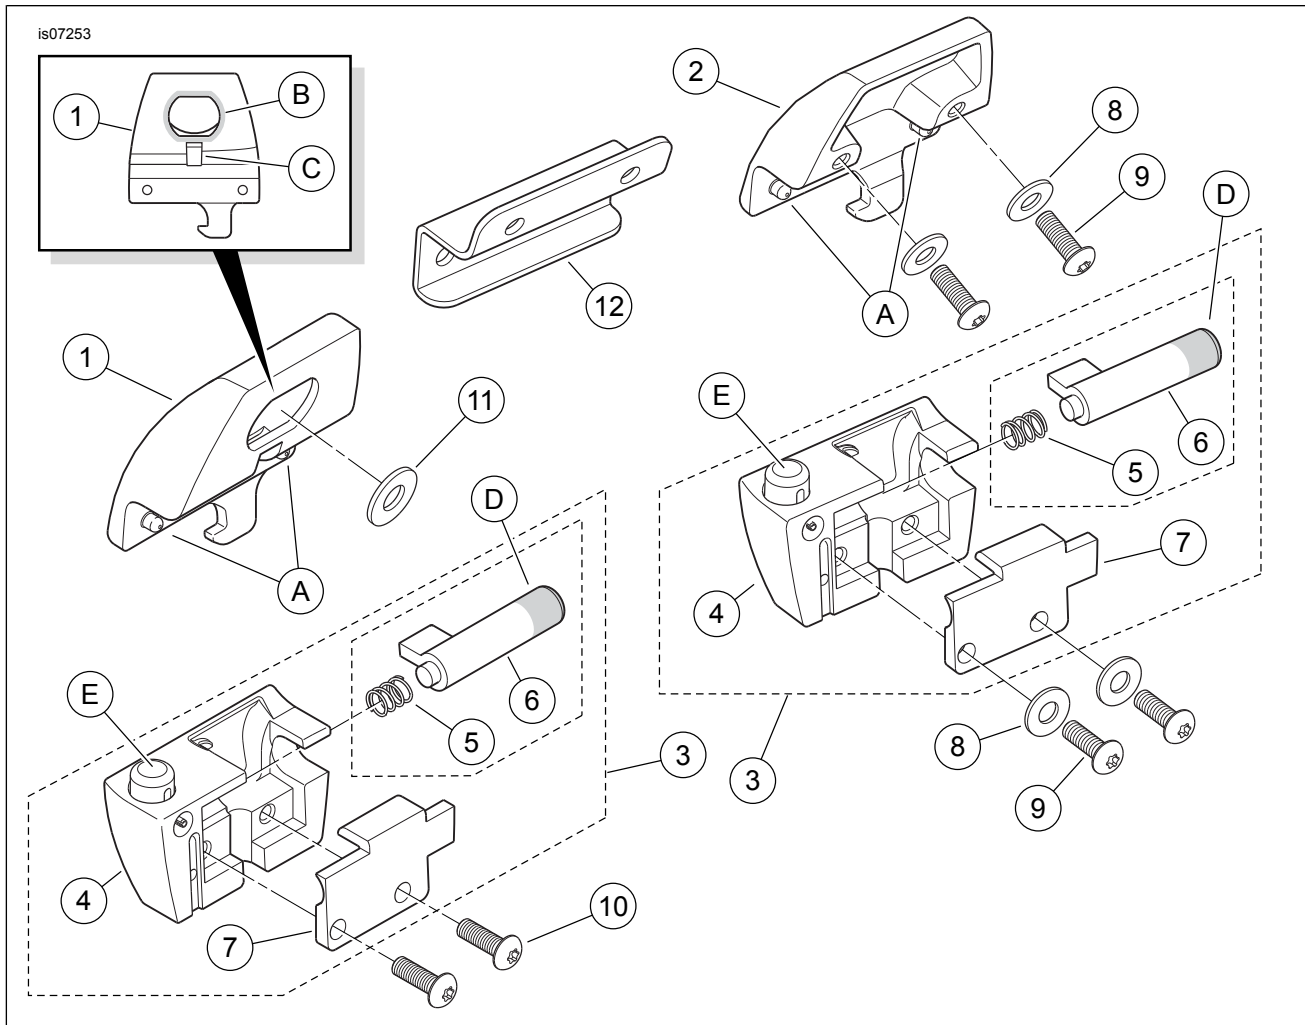

Figure 5. Service Parts, Premium Tour-Pak Latch Kit
See Figure 5 and Table 1.
1. See Figure 5. Get the upper forward Tour-Pak latch (1) and 6.4 mm (1/4 in) flat washer (11) from the kit, and the lockset removed from the Tour-Pak lid earlier.
2. Position the latch over the lock hole in the lid, with the locating pins (A) in the holes on the lid flange.
4. Install the lock guide (7), in the proper orientation. Install the jam nut (6) and tighten per service manual instructions.
5. **For CVO models with power locks:** Assemble the remaining components per the service manual. **For ALL OTHER models:** Follow the service manual to install the cam washer, cam hook (5), flat washer (13) and lockwasher (4) onto the lockset threaded stud in the proper orientation.
6. Apply a few drops of Loctite 243 - Blue to the clean lockset stud threads. Install the hex nut (3) and tighten per the service manual.
7. See Figure 5. Get the upper rear Tour-Pak latch (2), two #8-32 x 16 mm (5/8 in) long pan head screws (9) and two #10 (5 mm) flat washers (8) from the kit.
- Open the Tour-Pak lid. See Figure 5. Remove the fasteners to free the lower latch assembly (3) from the Tour-Pak.
- Remove the latch cover (7), catch (6) and catch spring (5).
- Install the catch spring and catch into the lower latch (4) chamber.
- Install the latch cover, and press the catch release button (D) against the spring to verify proper operation.